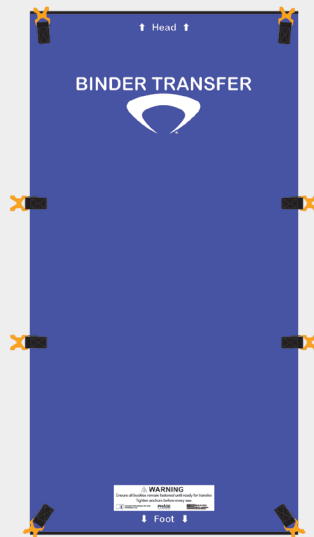

Fig. 1
- (1) Binder Transfer slide sheet (Fig.1)